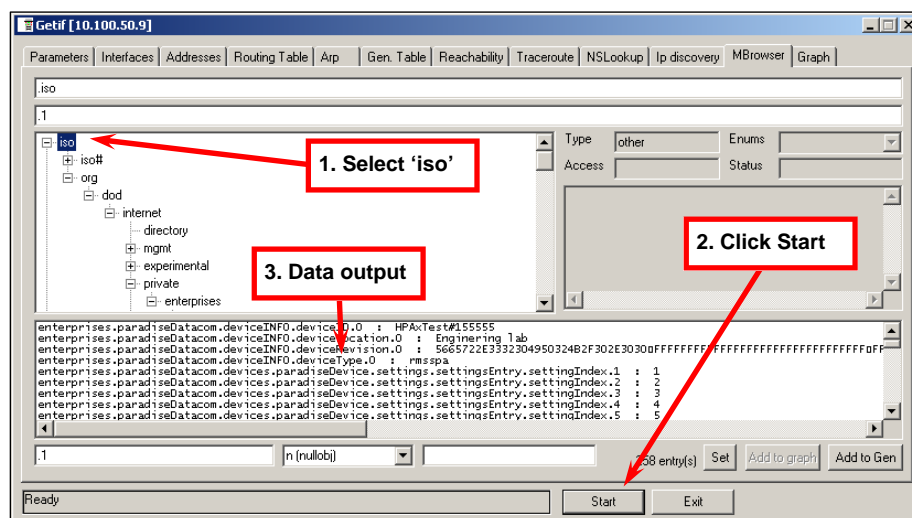

Figure 10-10: Getif MBrowser window, with update data in output data box
5. Click on the 'iso' main entity on the MIB tree (**Figure 10-10, Item 1**), and click **Start** (**Figure 10-10, Item 2**).
6. Update data will be displayed in the output data box (**Figure 10-10, Item 3**).